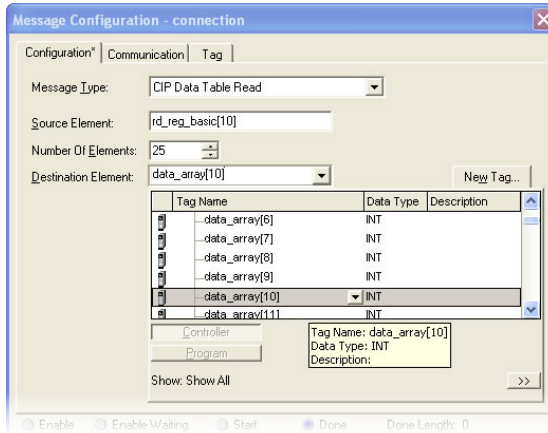

Figure 89: Selecting the Destination Element
- iv) For the Destination Element, either directly type in “data_array[10]”, or select element #10 in the data_array tag via the drop-down box (refer to Figure 89). The destination could be any offset in the data_array tag, as long as the offset plus the Number Of Elements (25) does not exceed the tag’s defined size (100).